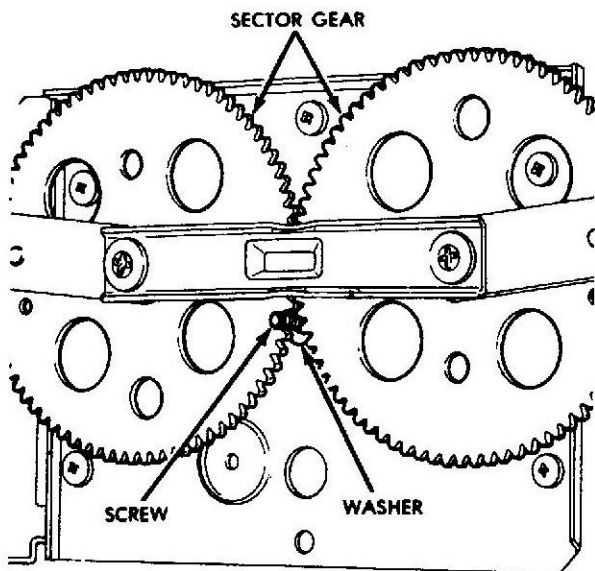
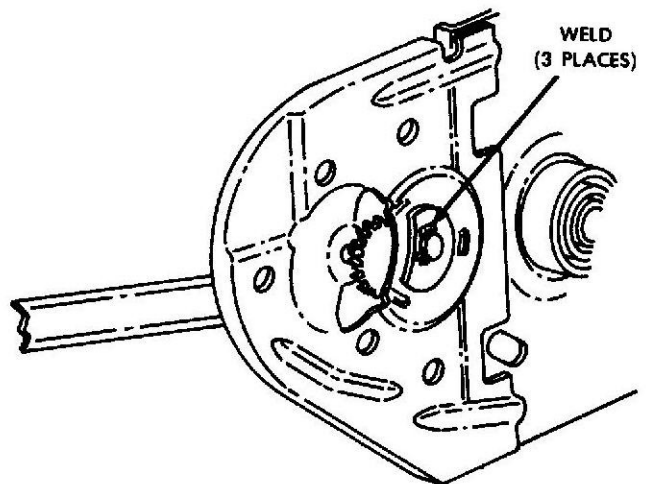

Fig. 1 Locking Electric Operated Window Regulator Gears
Fig. 2 Pinion Gear Shaft Weldment
- (7) Install a 1/4 inch by 1 inch screw, with flat washer, between the sector gear teeth (Fig. 1).
- (8) Remove motor attaching screws and slide motor from under regulator.
- (9) Remove regulator attaching screw and regulator. If attaching screws are not accessible, proceed as follows:
- (10) Clean regulator in solvent and dry with compressed air.
- (11) Wire brush area around pinion gear shaft.
- (12) Stake pinion gear shaft in position.
- (13) Tack weld pinion gear shaft in three places (Fig. 2).